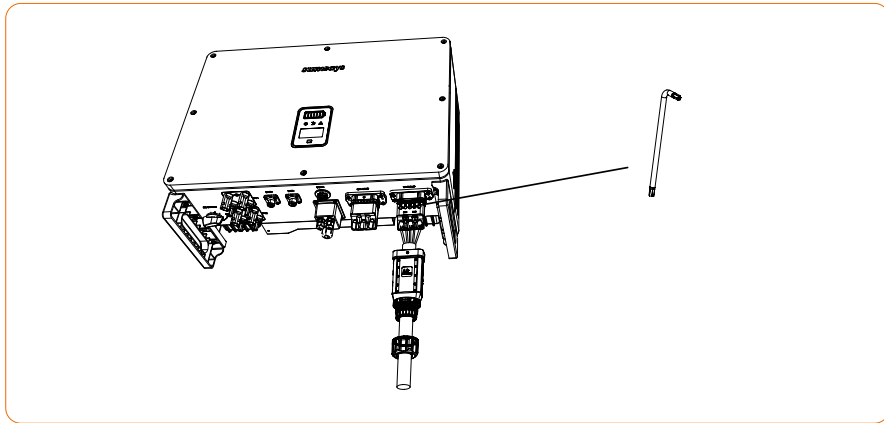

Figure 4-23
3) Insert the cable into the rubber core in the wire sequence, and observe whether the cable is plugged in place through the perspective hole, and finally crimp it with a screwdriver, as shown in Figure 4-23: